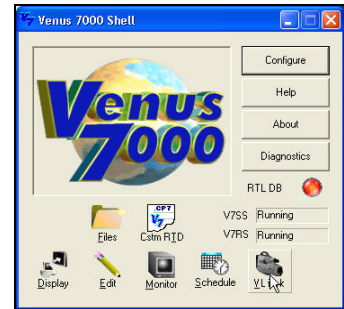

Figure 20: Venus 7000 Shell
- a. On the Venus 7000 shell, click the **VLink** button in the bottom right corner. Refer to **Figure 20**.
- On the Venus 7000 shell, click the **VLink** button in the bottom right corner. Refer to **Figure 20**.